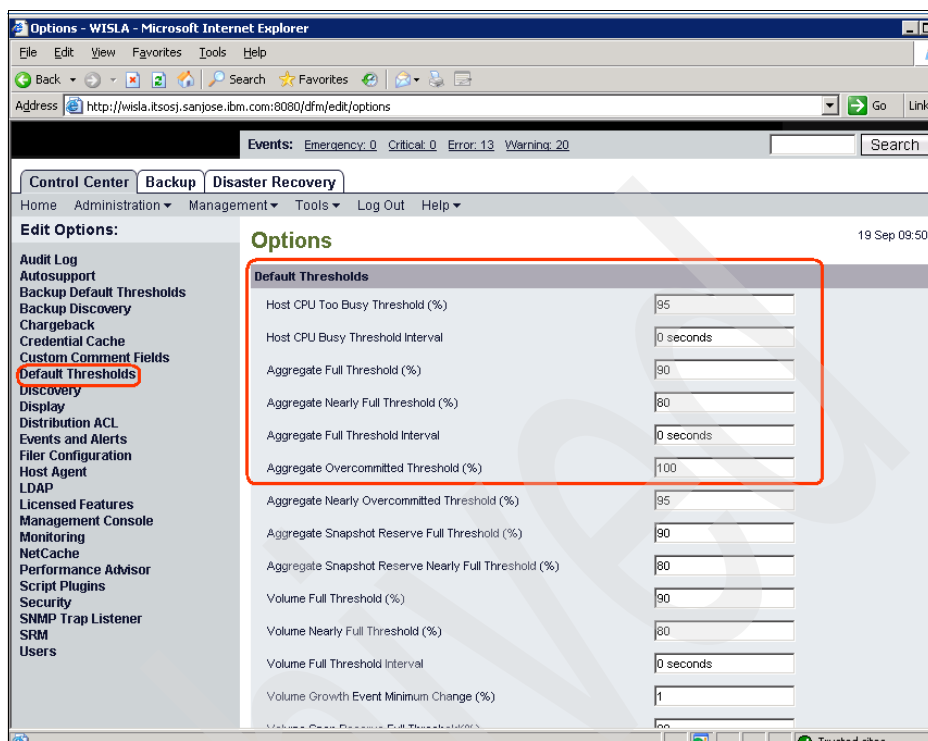

Figure 10-14 Default thresholds on DFM
2. Choose **Default Thresholds**. Figure 10-14 on page 368 shows the default threshold on the DataFabric Manager.